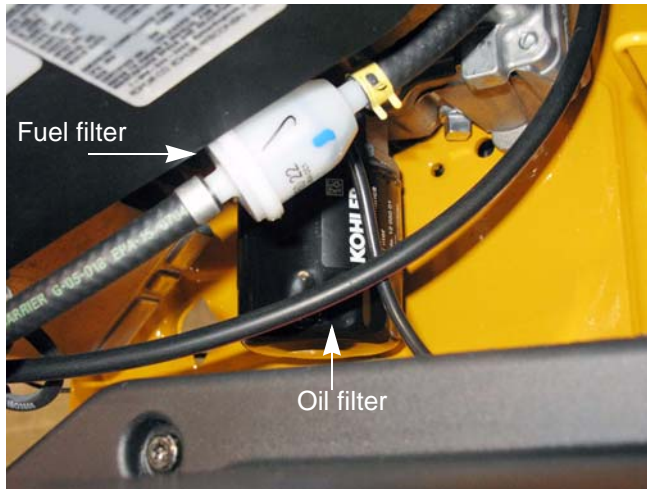

Figure 8.8
3. Remove the oil filter by turning it counter-clockwise, as seen from the right side of the mower. See Figure 8.8.